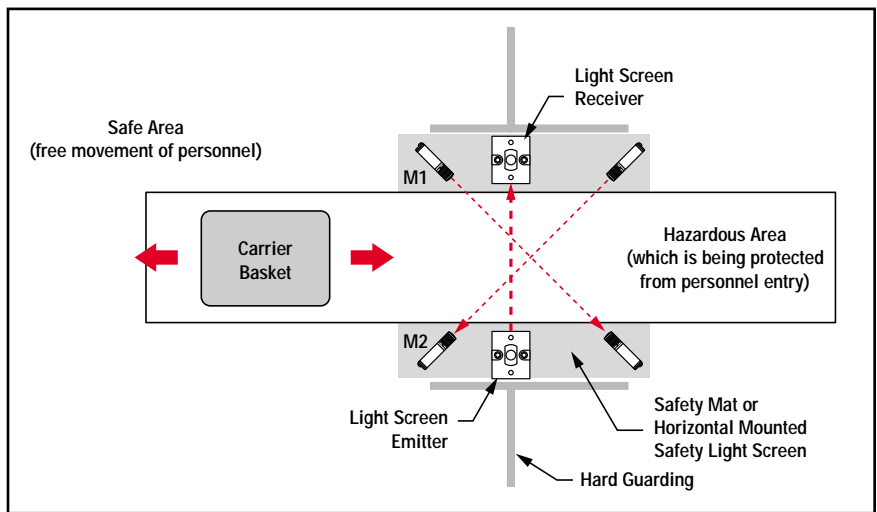

Figure C-1. "X"-Pattern Entry/Exit system using two pairs of opposed-mode photoelectric muting devices
(For example, "X"-pattern Entry/Exit System, see Figure C-1, page 97)
- It must not be possible for an individual to block both photoelectric beams (dashed diagonal lines in Figure C-1) and initiate a mute condition. Check the installation to verify that unintentional muting is not possible. The "crossing point" of the photoelectric beams must be located in the hazardous area and not be accessible to personnel (by reaching over, under, through, or around).